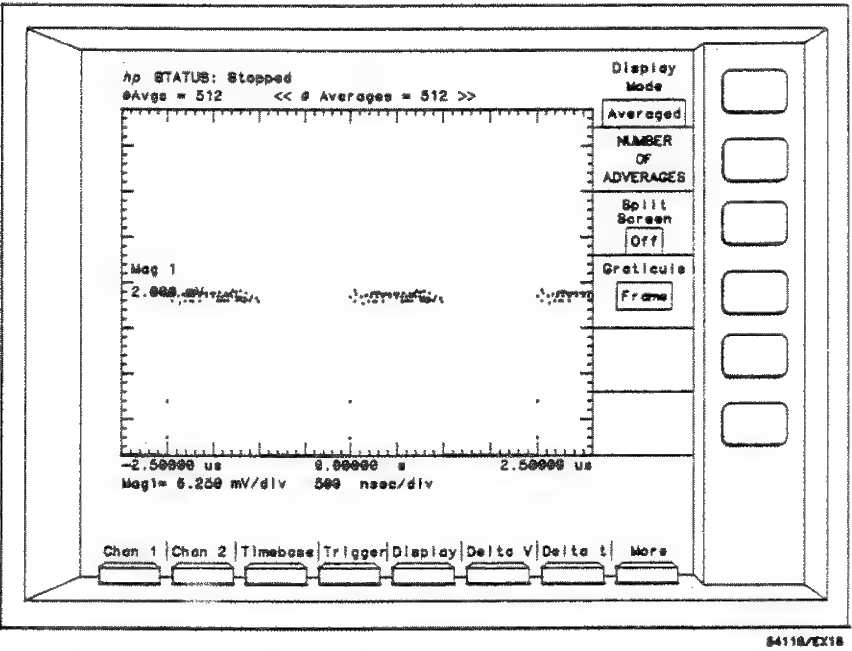

Figure 7-23. Magnify in the Averaged Mode with 512 Averages
10. Change NUMBER OF AVERAGES = 512 (see figure 7-23). Notice that with a greater NUMBER OF AVERAGES there will be less noise on the signal and the display will appear to be more stable.